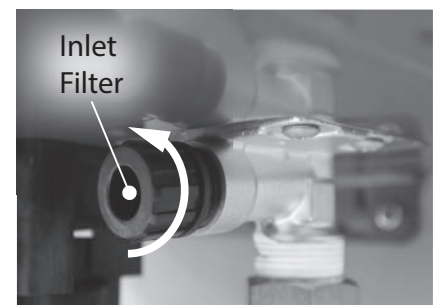

Figure 201 - Locate and remove inlet filter
- 7** Locate and remove the inlet filter as shown in Figure 201 to drain any residual water left in the system. Place a bucket or pan underneath inlet filter to collect water during removal.